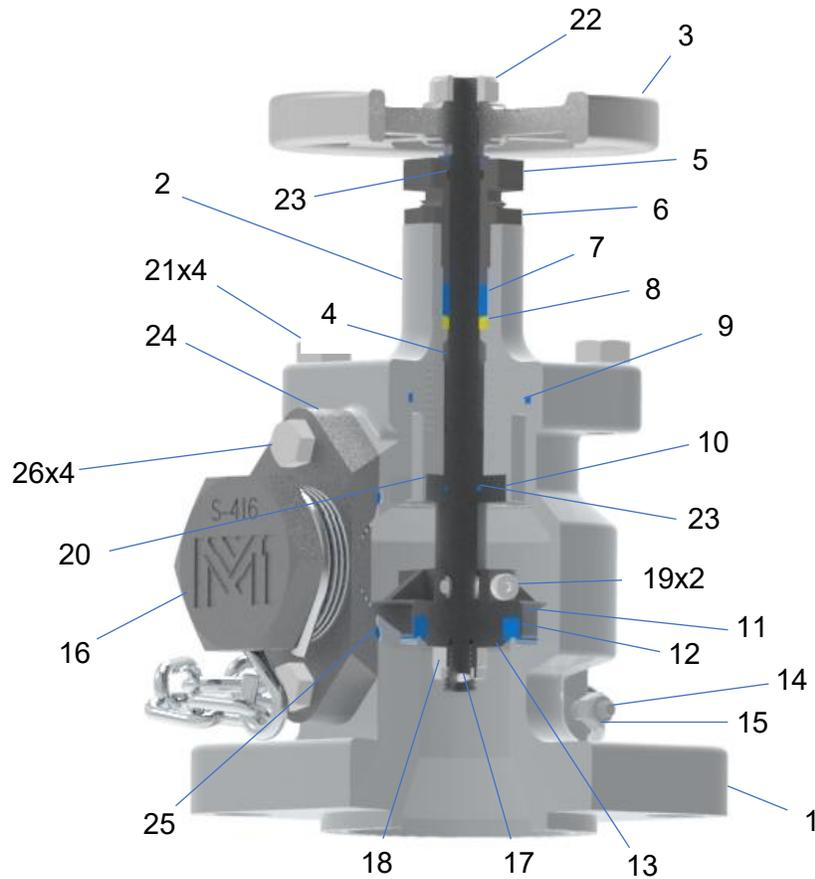

Figure 7 - 2" Rising Stem Angle Valve Component Symbols
- 11.1. Refer to Figure 7 and Table 2 for the components referenced below.